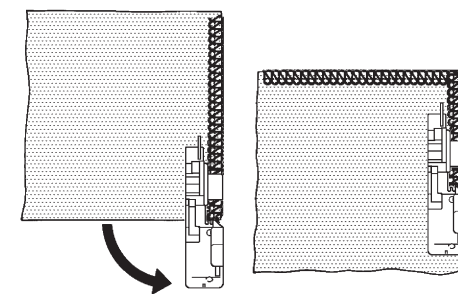

Fig. 1
3. Turn the fabric, lower the presser foot and begin stitching in the new direction. Fig. 1.
1. Place a "filler" cord, such as a crochet cotton, gimp, wool, knitting yarn, or shirring elastic at the rear of the machine spool pin. Pass the cord through the cord guides (1) and (2) and then through the left needle thread guide (3). See Fig. 1.